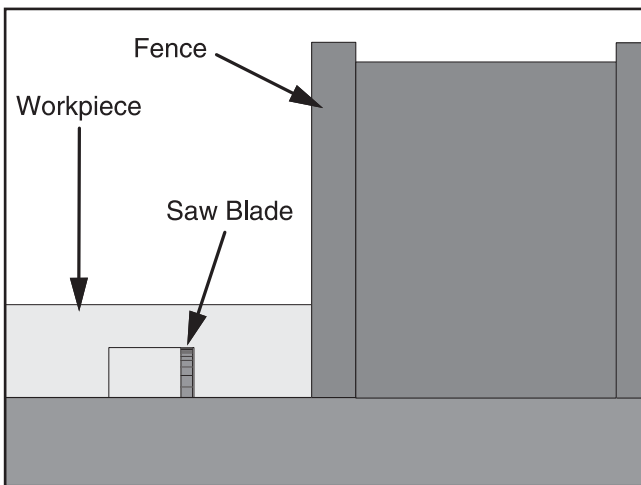

Figure 49. Single-blade dado first cut.
3. Align the blade to cut one of the dado sides as shown in **Figure 49**.